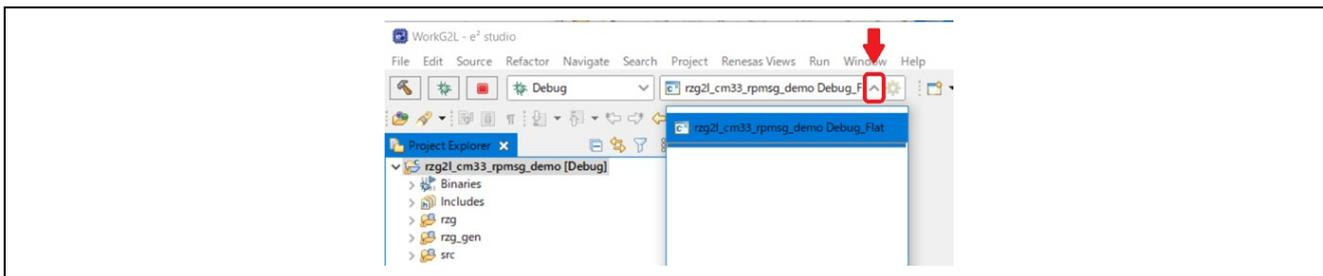

Figure 4-4. Select of Debug Configuration
1. Choose <device>_cm33_rpmmsg_demo Debug_Flat or <device>_cm33_rpmmsg_demo Release_Flat from the drop-down list indicated by a red arrow in Figure 4-4.